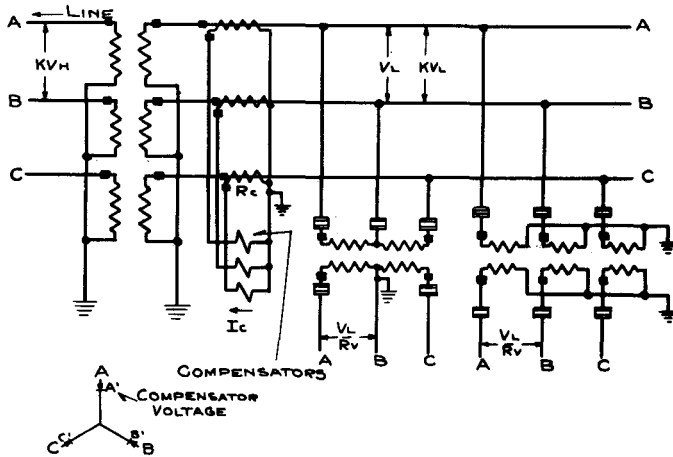

Figure 4
In this case the compensators are connected in star to star-connected low voltage current transformers as shown in figure 4. Then the compensator current is,
By definition the percent impedance of the power transformer is the percent voltage drop across the bank at unit current. As shown in the vector diagram of figure 4 the compensating voltage is in phase with a star current. Therefore the voltage drop across the bank at unit current (in this case  $I_C$ ) in terms of the star relay voltage is,
(Similar to figure 4 except compensator current transformers on high voltage side of bank.) This is the same as the case above except equation (1) is in terms of  $KV_H$  instead of  $KV_L$ . Therefore for star-star connected power transformers with star connected compensators on the high voltage side, the following formula applies:
It should be noted that with the current transformers connected outside the delta, single phase-to-ground faults will give incorrect line-to-ground voltage due to the circulating current in the delta which does not pass thru the current transformers. This is not important in applying relays for phase fault protection. The voltage appearing across the terminals L and T of the compensators is proportional to the difference between two equivalent power transformer currents. The delta voltage AB is obtained from the voltages of the two transformers A and B, and it must be compensated by the drop in each of the two transformers. The star-delta auxiliary potential transformers provide voltages corresponding to the high tension voltages in phase position, but uncompensated in magnitude. Current A" feeding the A compensator is related to  $I_A - I_C$  and current B" feeding B compensator is related to  $I_B - I_A$ . The compensators add the two voltages appearing across their terminals. Since the voltage path from A' to B' traverses the L and T terminals of the two compensators in opposite directions, the total compensated voltage is proportional to  $3 Z I_A$  if  $I_A + I_B + I_C$  is equal to zero. If  $I_A + I_B + I_C$  is not equal to zero, there is a circulating current in the delta which will cause equal and opposite drops in transformers A and B so the delta voltage is still correctly compensated. Combining these compensator voltages with the low tension star voltages as shown, gives the compensated delta voltages for the relays. Thus, the compensated relay voltages from the vector diagrams are EA'C, EC'B, or EB'A. This method of compensation should be used only when delta relay voltages are required as the voltages A', B', or C' to ground are not the true phase-to-ground compensated voltages as they are in figures 4 and 6.
A. Star (H) - Star (L) - Delta (T) Bank. Current transformers on high (H) and low (L) tension windings:
Two sets of compensators are required in line with equation (14). The setting for the compensators using the low tension current transformers is the same as equation 6 except  $Z$  is  $Z_L$  and for the compensators using high tension current is the same as equation 7 except  $Z$  is  $Z_H$ . The two compensator voltages are shown in figure 8b. The schematic connections can be easily derived from figure 4.
B. Star(H)-Star(L)-Delta(T) Bank. Current transformers on low (L), winding and inside the delta tertiary (T) windings:
Two sets of compensators are required in line with equation (15). The two compensator voltages are shown in the vector diagram of figure 8b. The schematic connections can be derived easily from figures 4 and 6. The setting for the compensators using the low tension current transformers is the same as equation 6 except  $Z$  is  $Z_L + Z_H$ . The setting for the compensators using the tertiary current transformers connected inside the delta is as follows: The compensator current is: